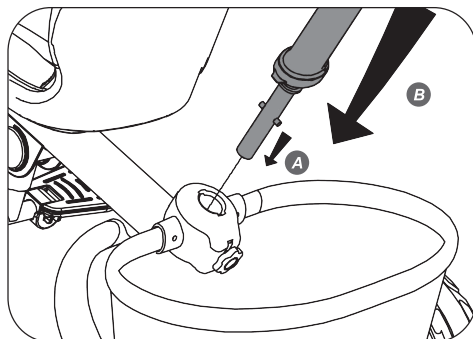

Fig. 9
12. Insert the Parent Handle into the Parent Handle Frame Opening on the back, align the two tabs **A** to push the Parent Handle until it bottoms out **B** (See Fig. 9).